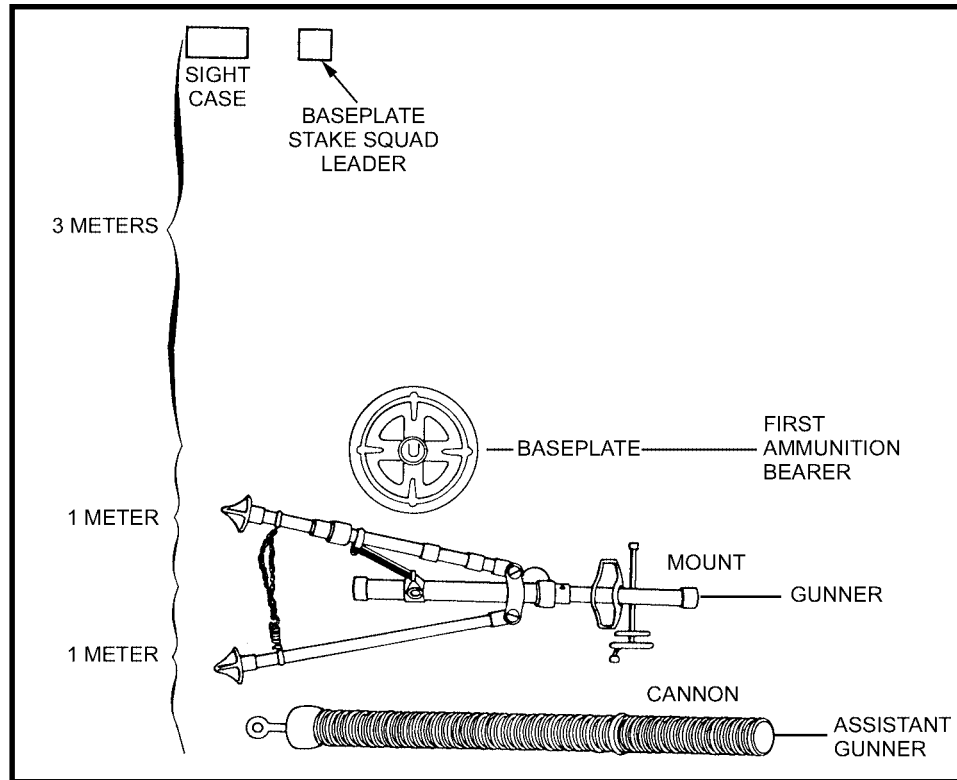

Figure 5-6. Layout of equipment.
- (1) The rotatable socket cap moves freely and has a light coat of oil.
(2) The ribs and braces are free from breaks and dents, and the inner ring is secured to the outer ring (M23A1 baseplate).
e. The *squad leader* supervises the conduct of squad drill and is responsible for supervising the laying out of the equipment as shown in Figure 5-6. The equipment is placed out the same for the gunner's examination.